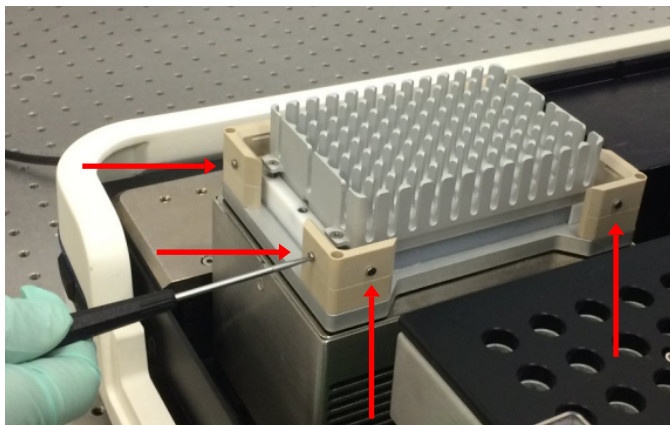

Figure 5 Grub screws on the Thermoshake device.
- ① Locations for the 3 screws to fasten the adapter plate to the Thermoshake device.
- Using the slotted screwdriver, tighten the 8 grub screws, 2 at each corner, found at the top of the Thermoshake device (Figure 5).